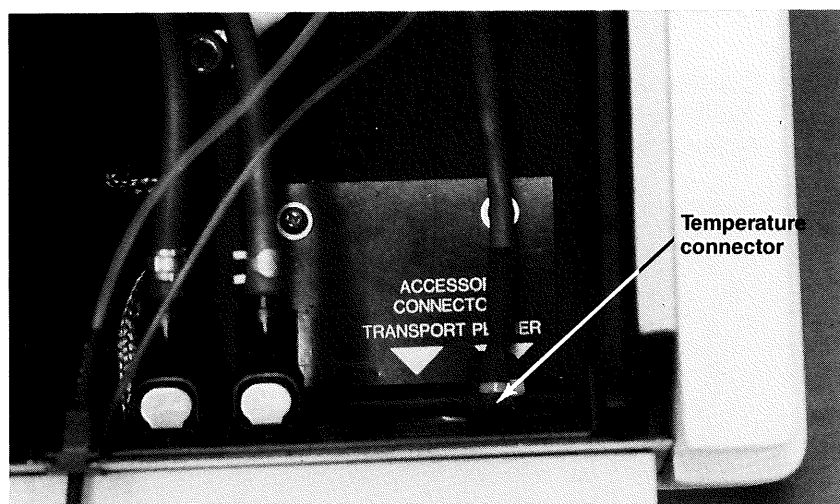

Figure 19.
21. Plug the temperature cable into the connector on the sipper panel. See Figure 19.